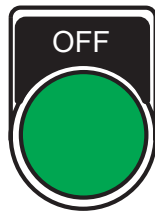

Figure 73. Main Circuit Breaker OFF Lamp
4. Verify that the **Main Circuit Breaker OFF lamp** (Figure 73) is lit (**ON**).
3. Verify that the **Main Circuit Breaker OFF lamp** (Figure 73) is lit (**ON**).